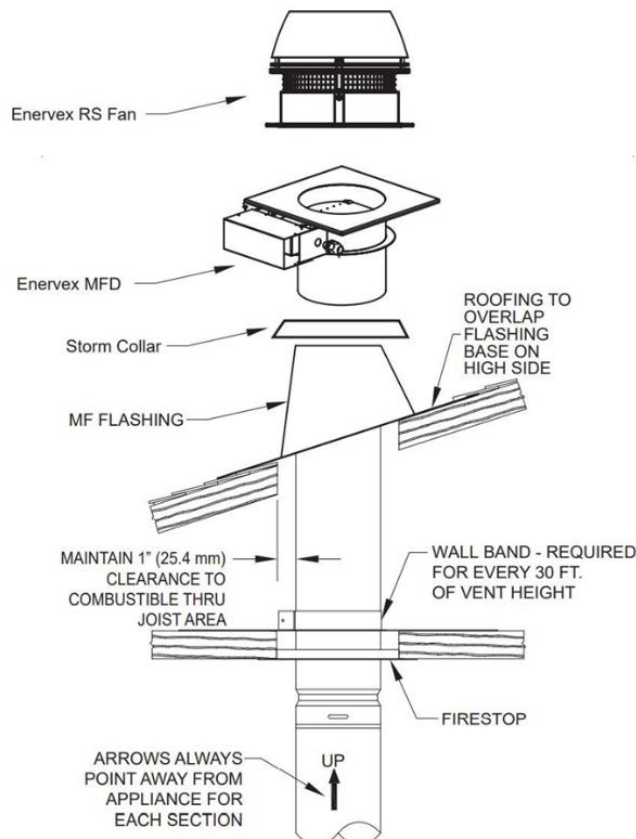

FIGURE 22
- 8) Where the B-Vent installation penetrates the roof, begin by cutting a hole that is 2 inches larger than the outside diameter (OD) of the B-vent pipe's outer casing. The B-Vent pipe is to be centered in this opening. Above the roof, a flashing is required to maintain the one-inch (25.4 mm) clearance to the combustibles of the roof. Installation of a storm collar allows water to drain over the flashing (**Figure 22**).